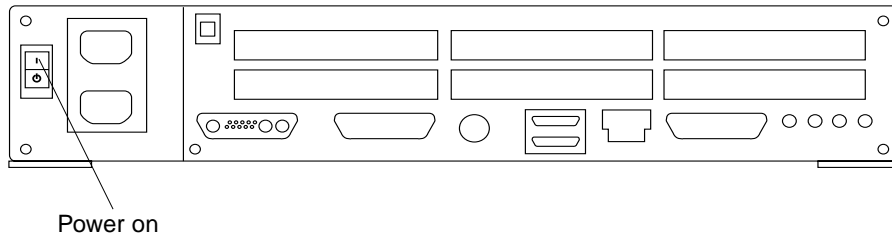

FIGURE 6-2 Power-On Switch
- e. Power on/Standby switch on the system back panel (FIGURE 6-2).